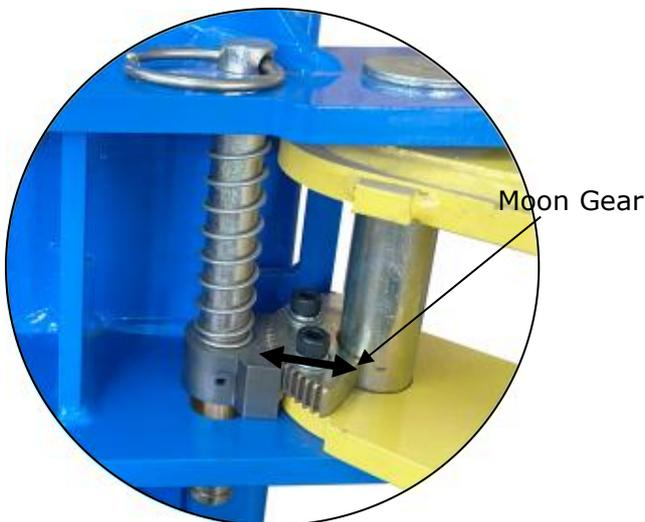

Fig. 37
3. Adjust arm lock as direction of arrow (See Fig.37).